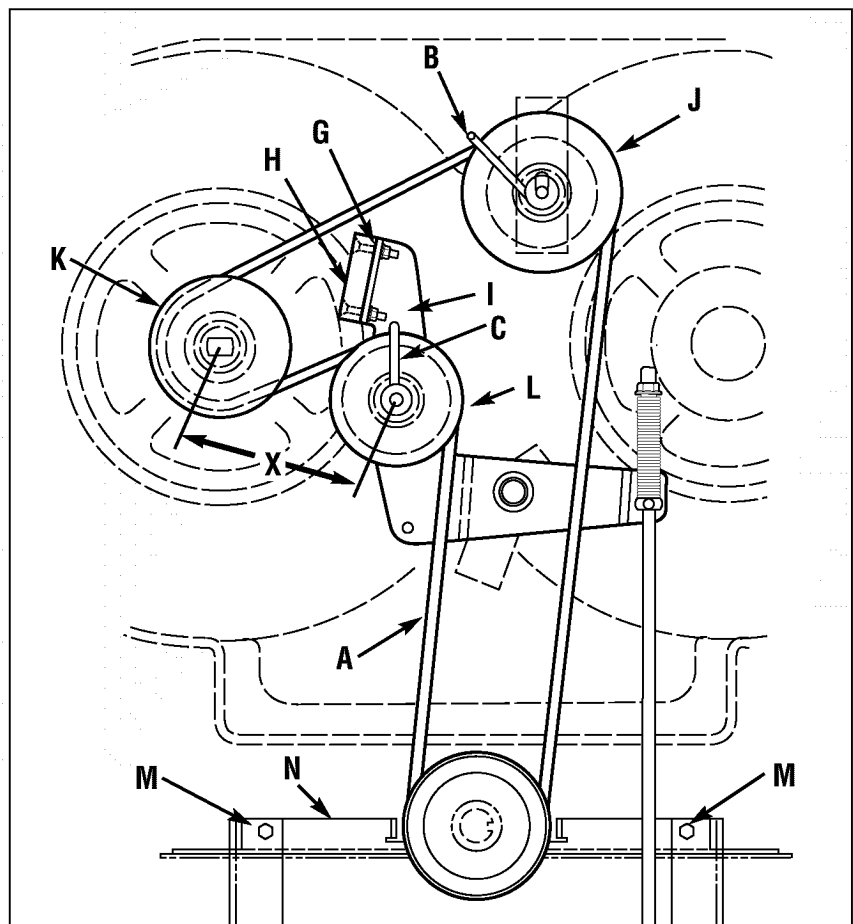

Figure 5-8: Blade drive.
- Loosen belt guides (B and C, Figure 5-8).
- Move flap bracket (N, Figure 5-8) out of the way by loosening two screws (M).
- Remove belt (A, Figure 5-8) from around sheaves.
- Route belt (A, Figure 5-8) around sheaves as shown.
- With the Blade Drive Control lever engaged, adjust and tighten belt guide (B) to  $1/32 - 1/16$ " away from tensioned belt. (Be sure that belt does not contact belt guide when belt is under tension.) Secure belt guide (C) rotated into position as shown in Figure 5-8.
- Re-tighten two screws (M, Figure 5-8) that secure flap bracket (N).
3. Remove hardware (G, Figure 5-8) securing blade brake (H).
4. Remove old brake (H) from idler arm (I).
8. Engage the blade drive and measure the distance (X, Figure 5-8) between the centers of pulleys (K) and (L). The distance should be 5-1/2 to 5-5/8". After obtaining the correct dimension, reinstall the belt cover securely and test the operation of the blade brake.